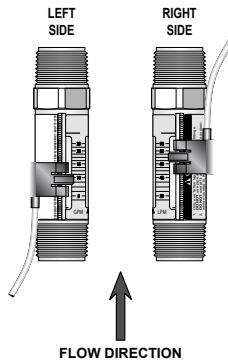

Figure 20: Switch adjustment
1. With the fluid running through the meter, gently move the switch adjustment tab outward until the switch body is free to slide up or down on the serrated rail. See *Figure 20*.
2. Move the switch into position until the switch activates. See *Figure 20*.